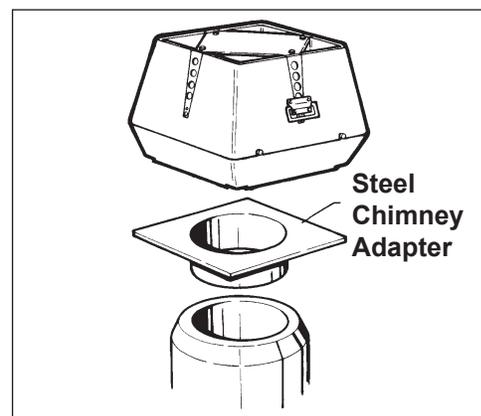

Fig 2
- Insert the steel chimney adapter into the chimney where the long collar engagement ensures safe anchoring (see Fig. 2). If necessary, the adapter can be secured by means of long self-tapping stainless steel screws into the side of collar through the chimney wall. Do not obstruct the flow.